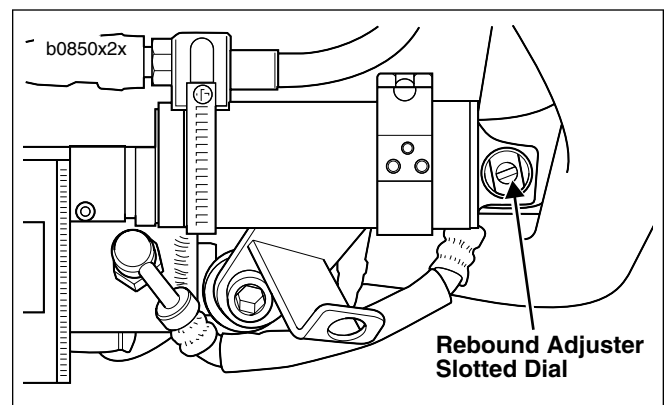

Figure 6. Rebound Adjustment
4. See Figure 6. Set rebound damping using the slotted dial on the remote reservoir at the front of the shock. New factory setting is as listed below: